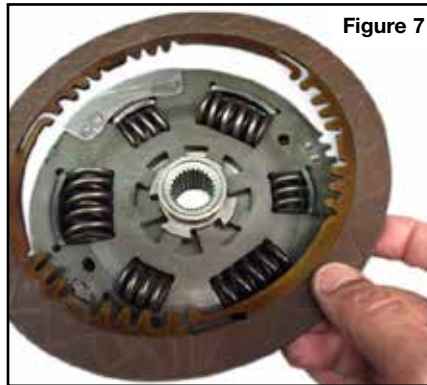

Figure 7
**NOTE:** It takes some practice to remove the OE clutch plate from the damper. Start by lifting clutch plate at a diagonal across from the still secured plate (Figure 7).
- Assemble Sonnax clutch plate ZF-CP-13 to OE damper by aligning the two fingers shown (**Figure 7**) and attaching to the right of the third and still secured plate.